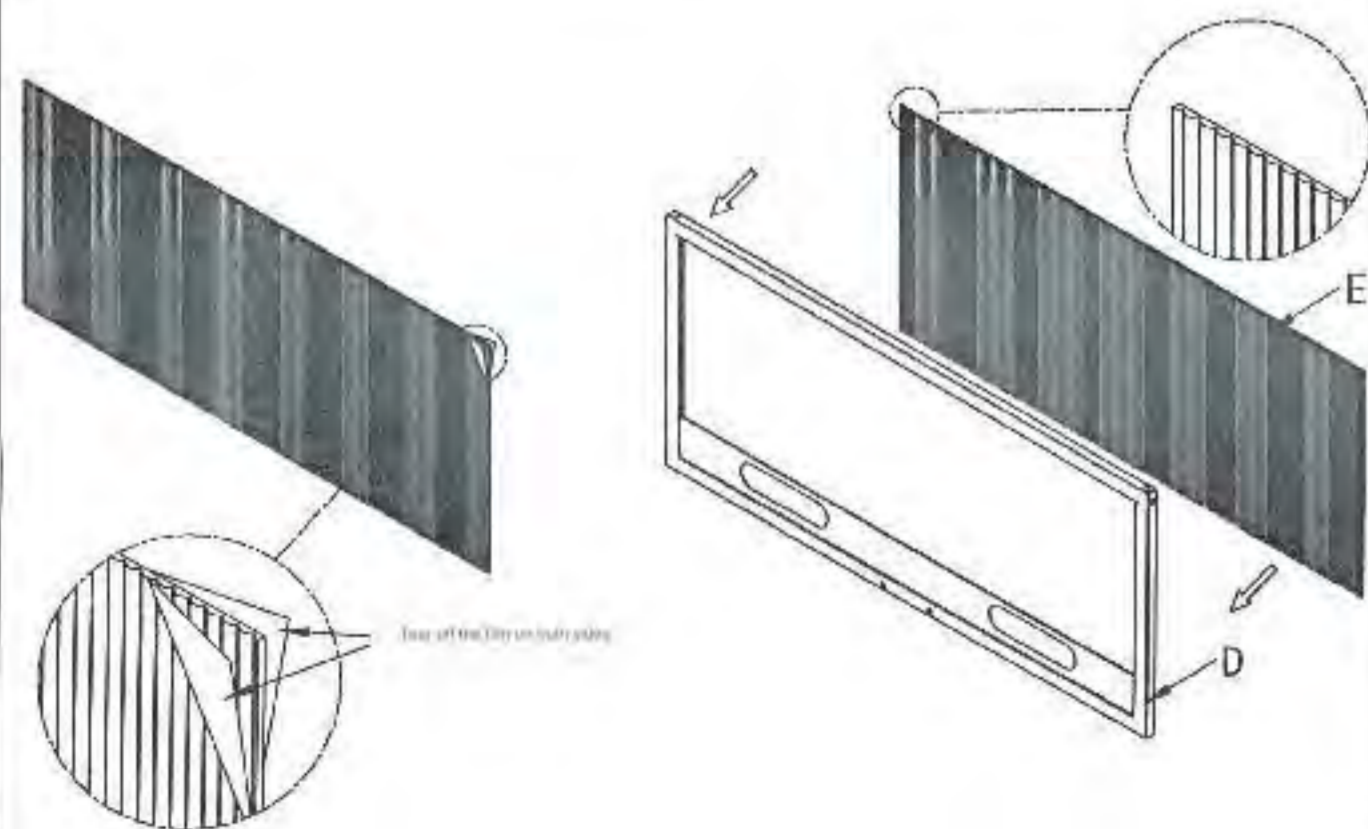
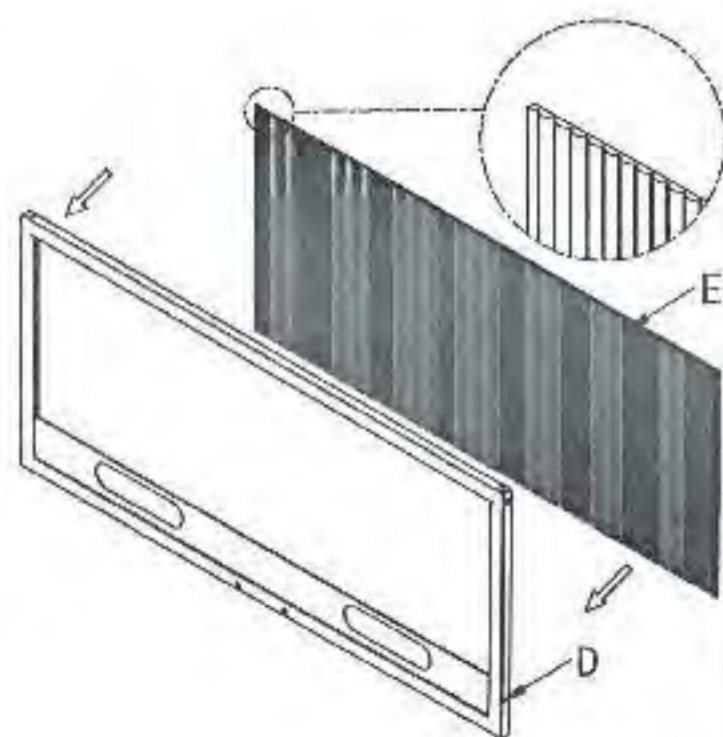

Figure 7
Figure 8
5. First tear off the film on both sides of the acrylic panel as shown in Figure 7, and then place the acrylic computer side forward into the door panel in the direction as shown in Figure 8.